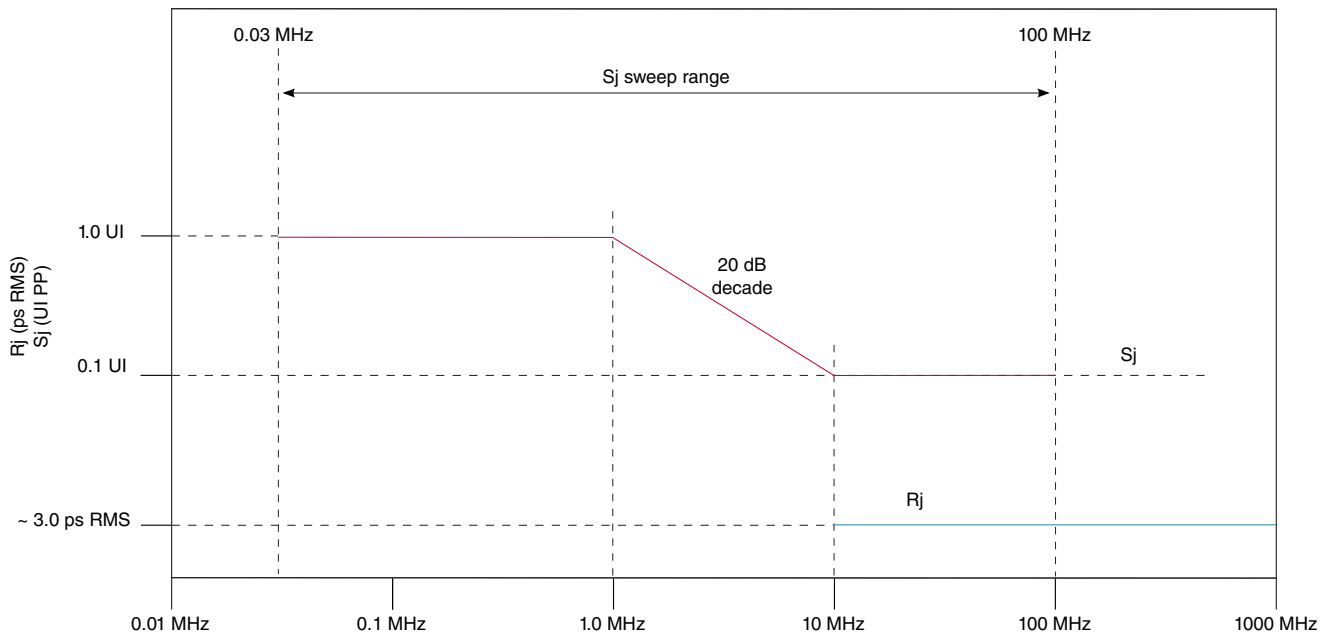

Figure 86. Swept sinusoidal jitter mask
- The sinusoidal jitter in the total jitter tolerance may have any amplitude and frequency as shown in Figure 86.
- Random jitter (Rj) is applied over the following range: The low frequency limit may be between 1.5 and 10 MHz, and the upper limit is 1.0 GHz. See Figure 86 for details. Rj may be adjusted to meet the 0.3 UI value for $T_{RX-SV-8G}$.